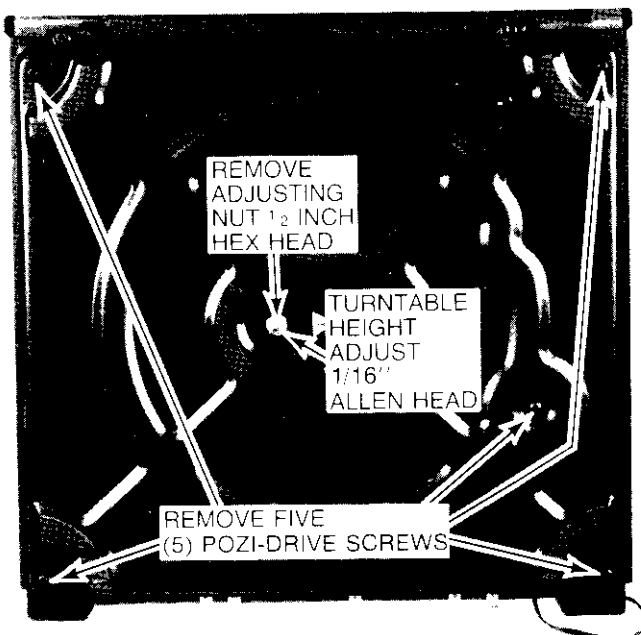

Fig. 10—Bottom Cover
3. Remove five (5) pozi-drive (+ head) screws Fig. 10.